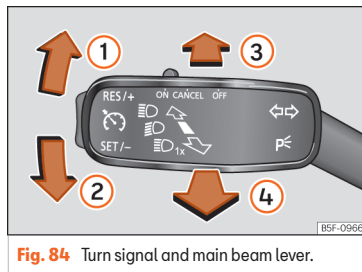

Fig. 84 Turn signal and main beam lever.
- From the base position, press the turn signal and main beam headlights lever forwards  Fig. 84 .
- **EITHER:** if main beam assist is on, pull the turn signal light and main beam headlights lever back  Fig. 84 .